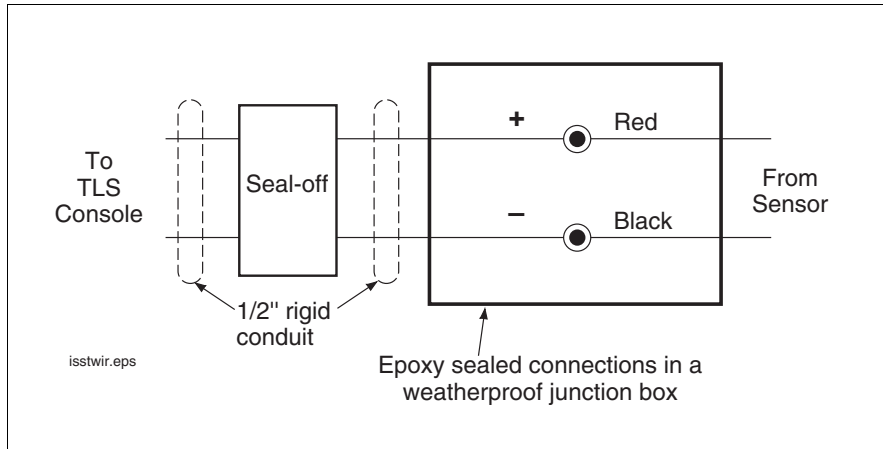

Figure 2. Sensor Field Wiring Diagram
- Using wire nuts, connect the two-wire sensor cable to the field wires in the sensor junction box (Figure 2). Seal wire nuts with epoxy sealant following the instructions in Figure 3.